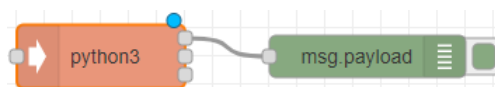

Figure 2.5: Simple Flow Example
20. Now let's see if our sensor works correctly. Choose output node called **debug** from the sidebar. This node is primarily used to check outputs of flows. Connect **debug node** to the **daemon node** (if you configure it as given above, name should be changed into python) as shown in Figure 2.5.